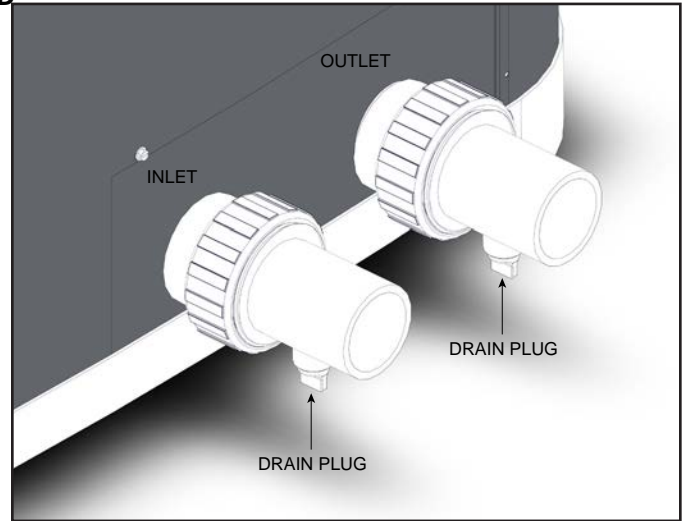

Figure 5. Water Connections/Drain Plugs
5. Drain plugs are located on each union fitting as shown in Figure 5 for draining the system during winterizing.
NOTE: While it is possible to mount the upper union with the drain plug vertically, the manufacturer has determined that installing both unions with the drain plugs facing down, as shown in Figure 5, provides for the best draining of the system.